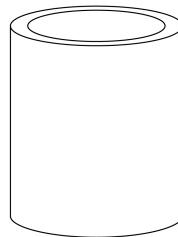

Figure 4: Qualcrimp Crimping Accessory
- **Qualcrimp Crimping Accessory (Figure 4)**